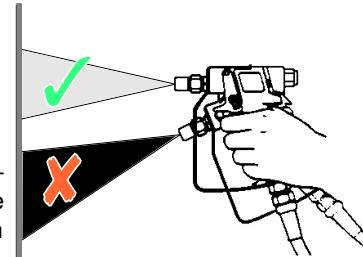

Fig. 10: Spray angle
- ▶ Hold the spray gun at a right angle ( $90^\circ$ ) to the surface to be coated. As soon as you hold the spray gun at a different angle, the coating will become uneven and patchy (see Fig. 10).